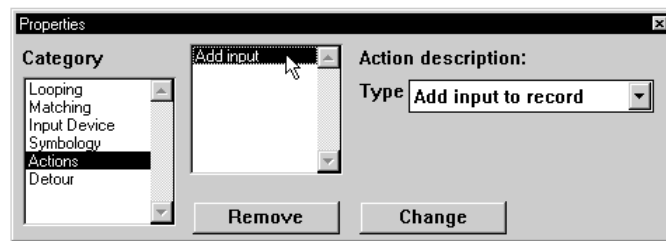

Figure 4-18 Add Input Action Selected
20. Select **Add input** in the action list (Figure 4-18).